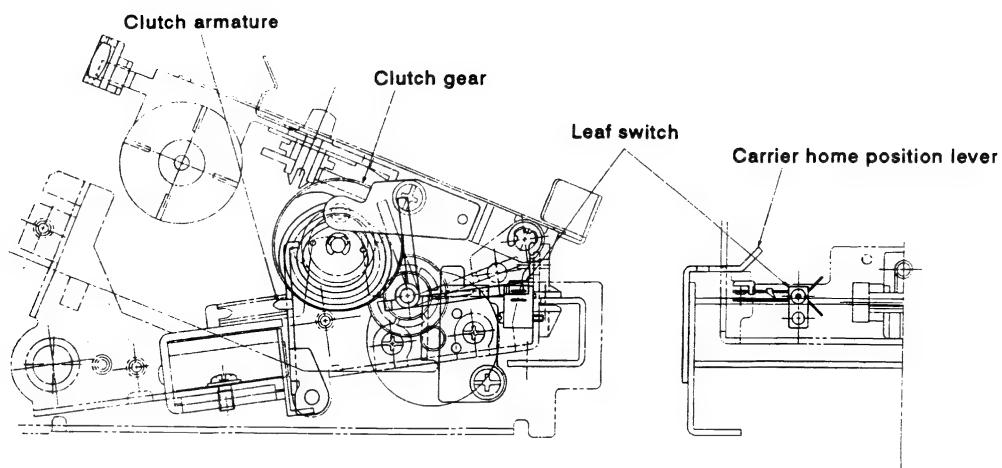

Fig. 7.3
- (1) Move the carrier to the right two steps from the left limit of travel. Rotate the daisy wheel gear in the direction shown by the arrow in Fig. 7.3. Make sure that the daisy wheel home position lock arm securely locks the home position lock ratchet on the daisy wheel gear (if not, adjust it by bending part (B) of the home position lock arm actuator).